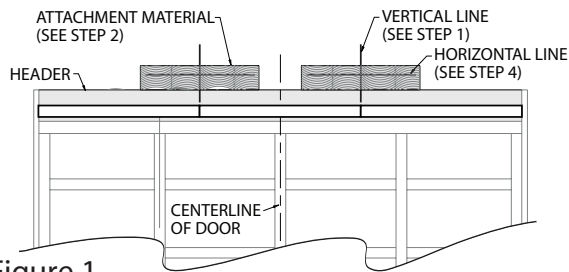

Figure 1
- 1) Measure the width of the door to determine the center. Make a vertical line above the door, as shown in **Fig. 1**. (If the vertical line is not in line with a door stile, a means of attaching the door bracket to the door must be provided. This can be accomplished by spanning the center of the door's top section (between the top and bottom rail) with a suitable material such as wood or steel).
- 2) Measure the width of the door and divide by 3 in order to determine the center lines for the track assemblies. Mark a vertical line on the header or added attachment material* as shown in **Fig. 1**.